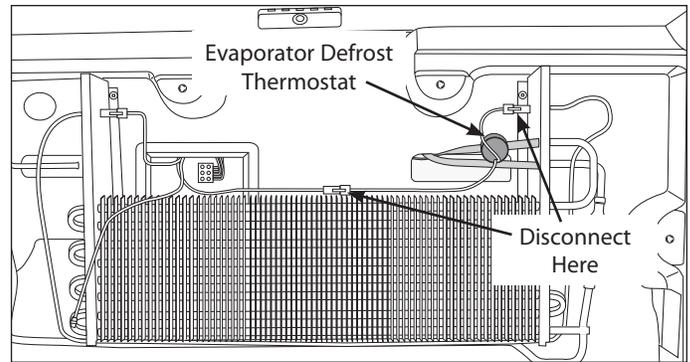

Figure 6-49.
6. Disconnect wire leads at Molex™ connectors. (See Figure 6-49)